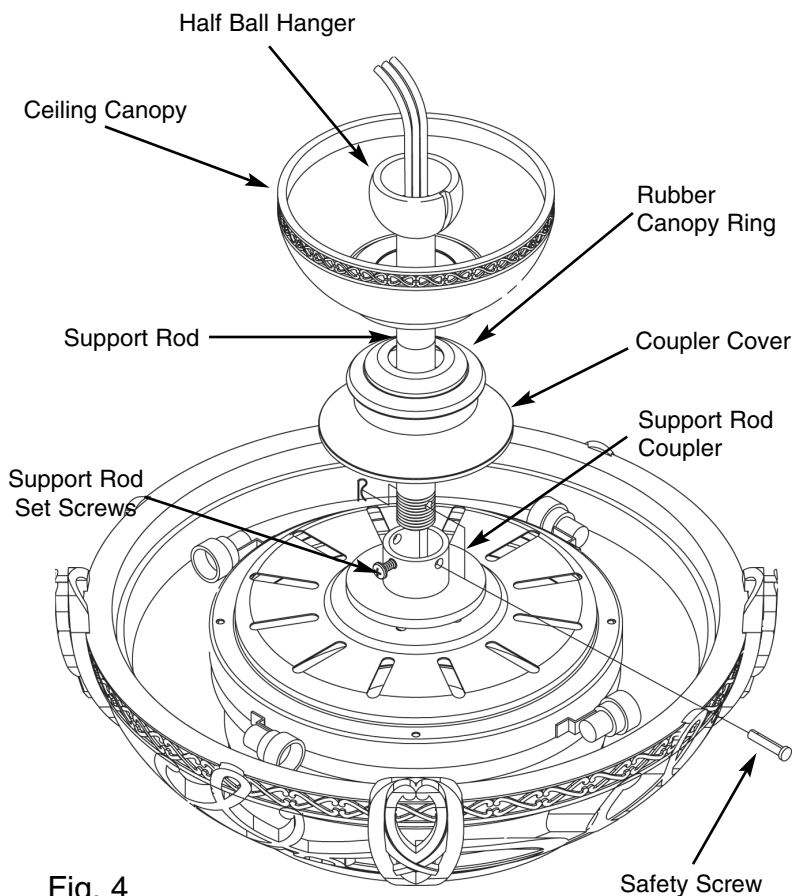

Fig. 4
Loosen the set screws (2) in the support rod coupler located on the top center of the motor housing (*see figure 4*) until the inside channel is clear.